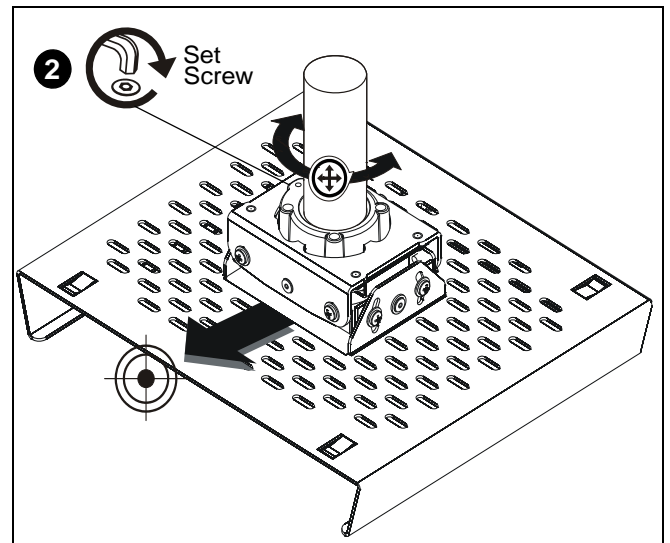

Figure 3
1. Turn MSP-CCS2 sleeve clockwise or counterclockwise until the front of the MSP-CCS2 is facing target. (See Figure 3)